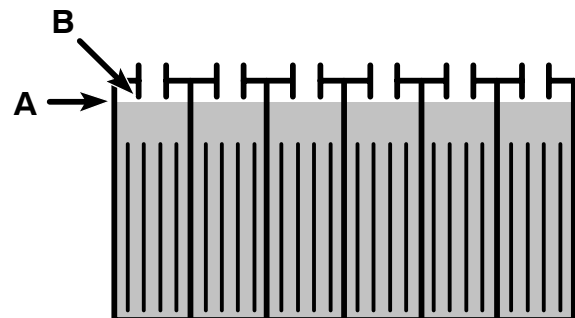

FIG. 36
- After charging, check the electrolyte level (A) again. The level should be approximately 1 cm (.375 in) from the bottom of the fill-port (B) (Figure 36). Add distilled water if needed. DO NOT OVERFILL.